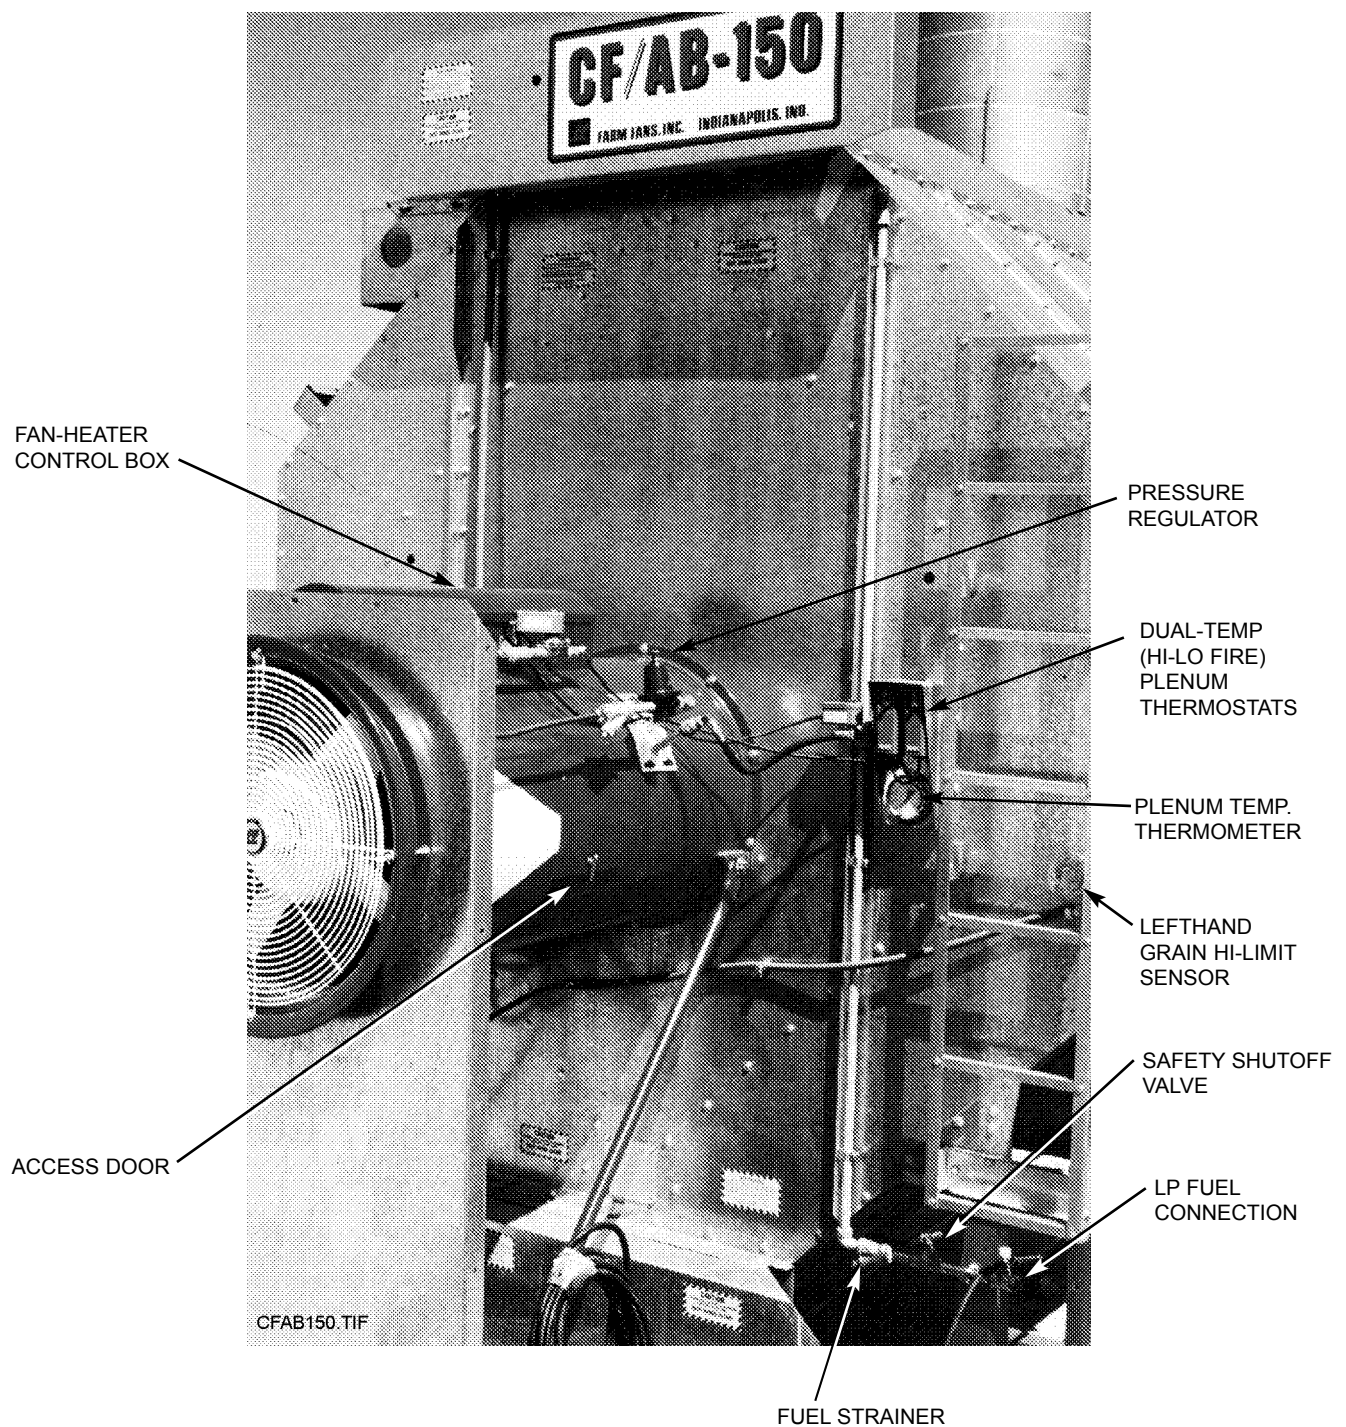

Fig. 6-1 CF/AB-150 LP model
**LIQUID PROPANE MODELS ONLY** — After initial installation and occasionally during the drying operation, check the temperature of the gas line between the regulator and the fan-heater control box. *Allow heater to operate and stabilize temperatures before making this check.* See Figs. 6-1 to 6-6 for many of the major fuel line components.